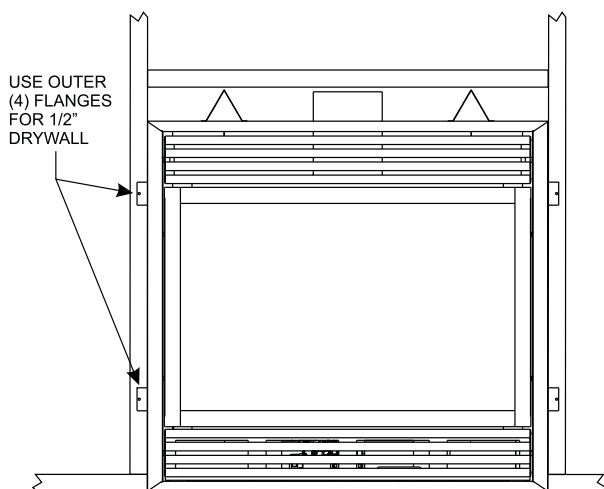

Figure 10A
3. Attach fireplace to frame using nailing flange. Preset depth to suit facing material (adjustable to 1/2", 5/8" or 3/4" depths). **NOTICE:** Fireplace must mount flush to facing material. If facing material requires more depth than 3/4", mark and drill two 1/8" holes into fireplace side at appropriate depth. Bend standoff tabs as needed to move fireplace flush with facing material. **See Figure 10A.**
Attention: When fireplace is installed in optional full cabinet mantel or corner mantel the four nailing flanges shown in **Figure 10A** will not be installed on the side of outer casing. The fireplace will be attached to the full cabinet mantel or corner mantel with the two nailing flanges located on the top of the outer casing assembly.